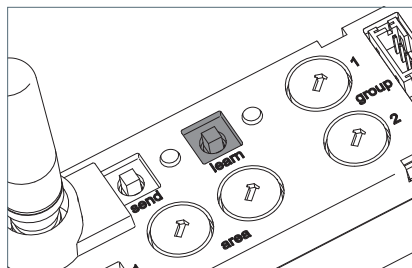

Fig. 21: "learn" key
- ▶ Press the "learn" key and keep it depressed for two seconds, see Fig. 21. The "learn" LED is flashing.